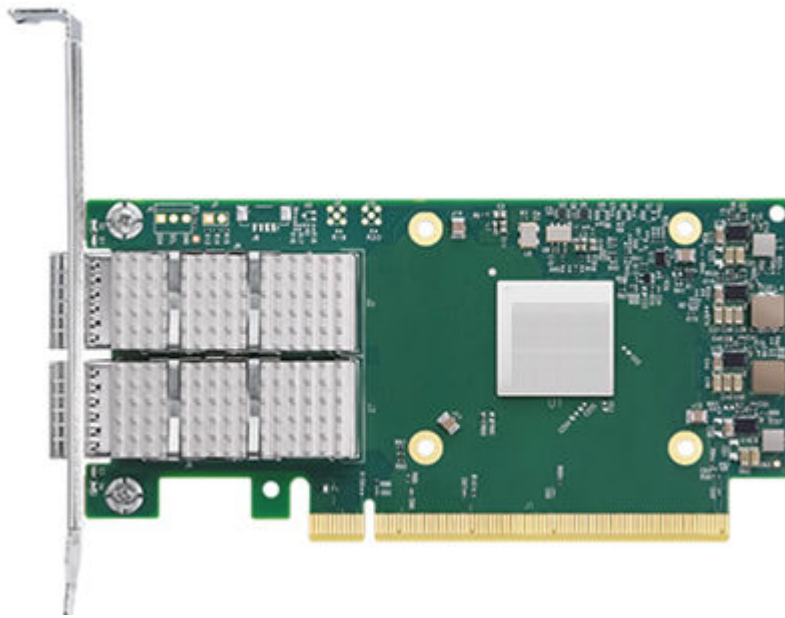

Figure 79. Alignment of the network adapter
- Align the replacement adapter with the PCIe socket of the adapter cage and press the adapter into place. Ensure that the adapter is fully seated in the riser, as shown in Figure 79 on page 136.